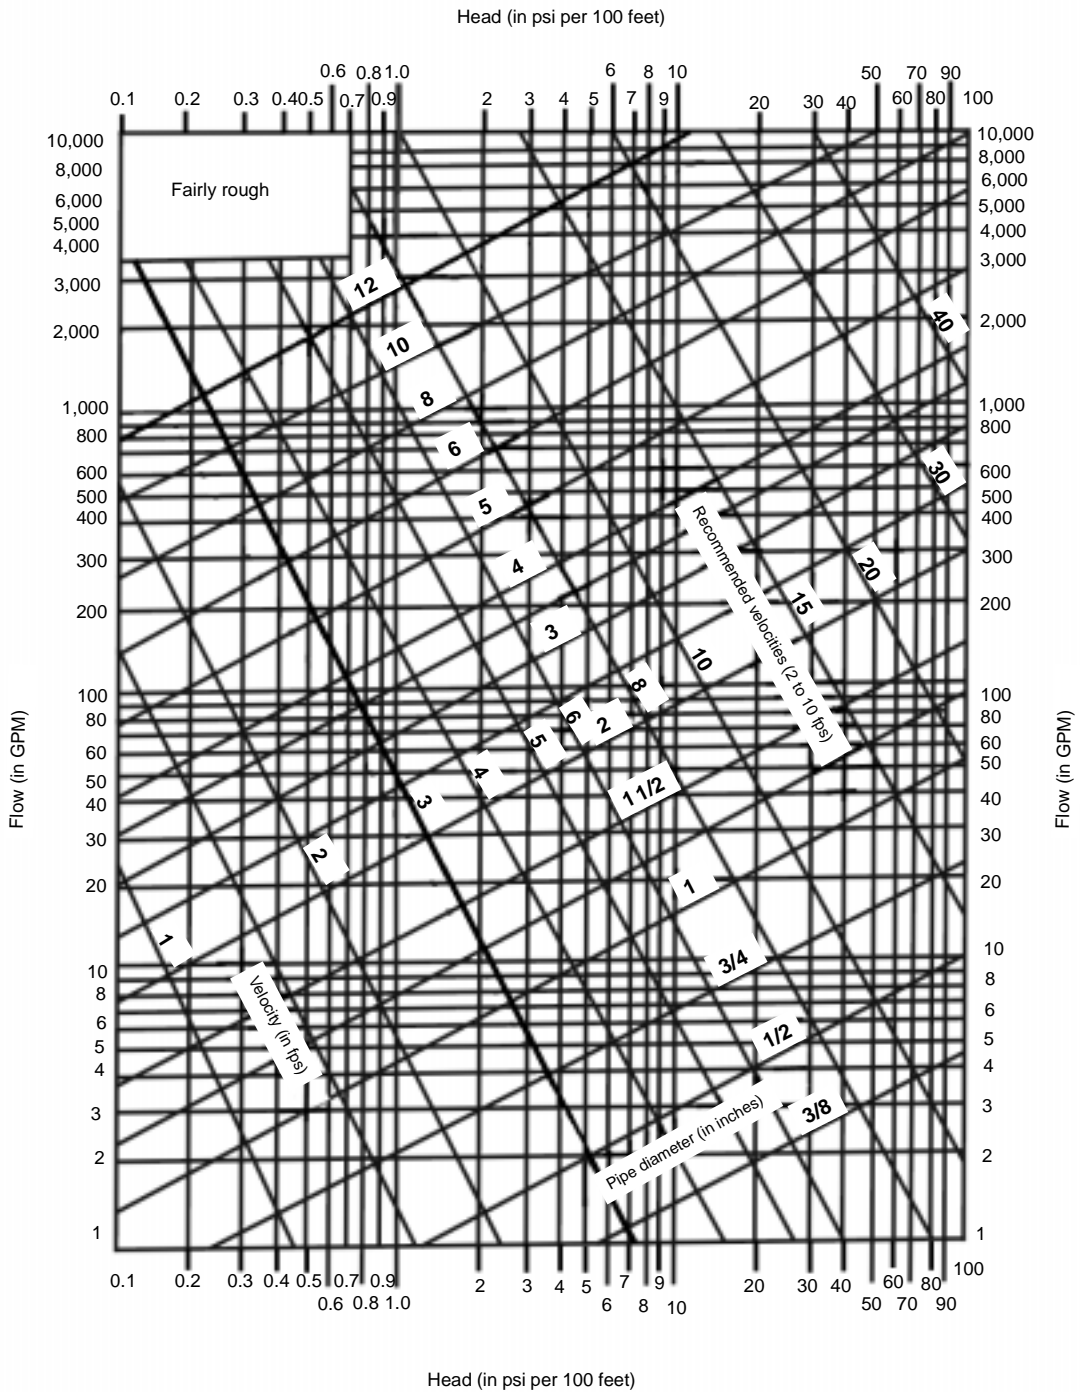

Figure D-3. Friction Loss, Fairly Rough Pipe
**Step 5.** Select a 6-inch diameter pipe and a velocity of 2.6 fps (intersection of selected pipe and Q). See *Figure D-3, page D-9*.